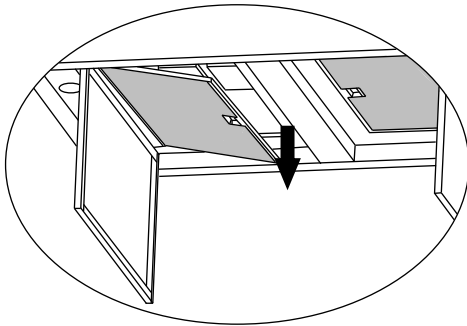

Fig 5
2. Remove the grease filters (Fig 5).